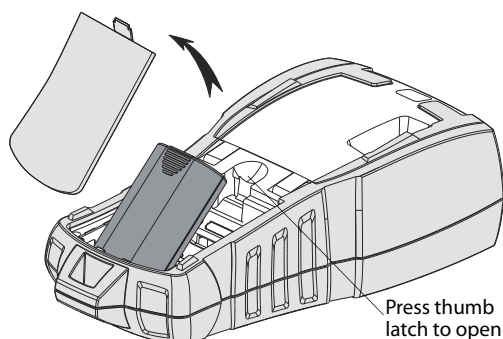

Figure 4
1. Press the thumb latch on the back of the printer to remove the battery compartment cover. See Figure 4.
2. Insert the battery pack into the battery compartment. See Figure 4.